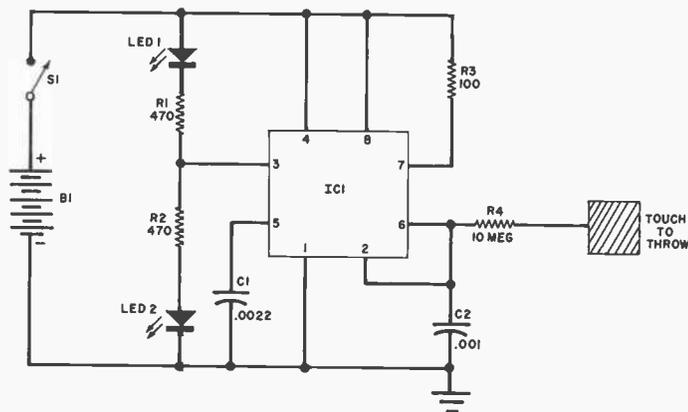

Fig. 7. Electronic coin flipper is operated by touching metallic plate.
**Reader's Circuits.** Indicating that he would welcome pen pals, one of our overseas readers, Ulf Nordquist (Frejas Väg 34, 240 21 Löddeköpinge, Sweden), contributed the circuits shown in Figs. 7 and 8. Ulf has specified standard American devices in his designs, implying that these must be readily available in Europe. In Fig. 7, a 555 timer (IC1) is used as the basis for an electronic "coin flipper" featuring red (LED1) and green (LED2) visual readouts.